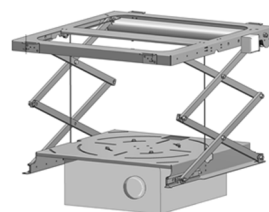

Fig.4
4. Attach the projector, with fastened grips, to the lift's bottom base. Slide in the projector from the bottom and fasten to the top using provided screws (Fig. 4)